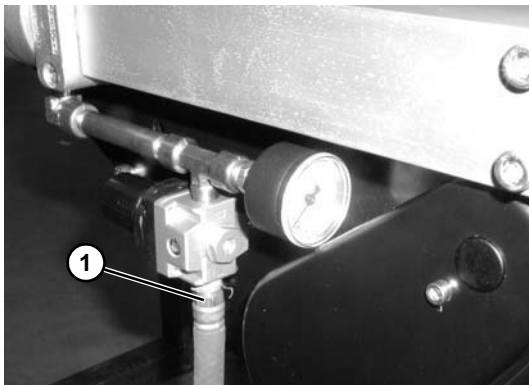

Figure 54
5. Reattach air supply (**Figure 54, item 1**) to center drive. Refer to “Conveyor Belt Tensioning” section on page 31 for more information.
7. Reattach air supply (**Figure 54, item 1**) to center drive. Refer to “Conveyor Belt Tensioning” section on page 31 for more information.